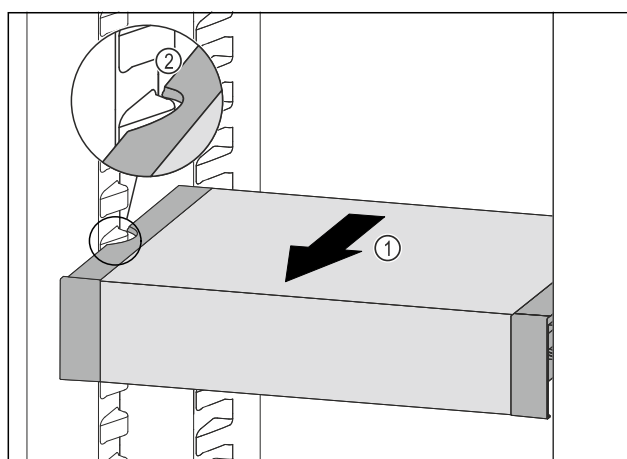

Fig. 123
- ▶ Pull VarioSafe forwards *Fig. 123 (1)* until the recesses in the side of the VarioSafe are at the level of the support rib in the fridge section. *Fig. 123 (2)*